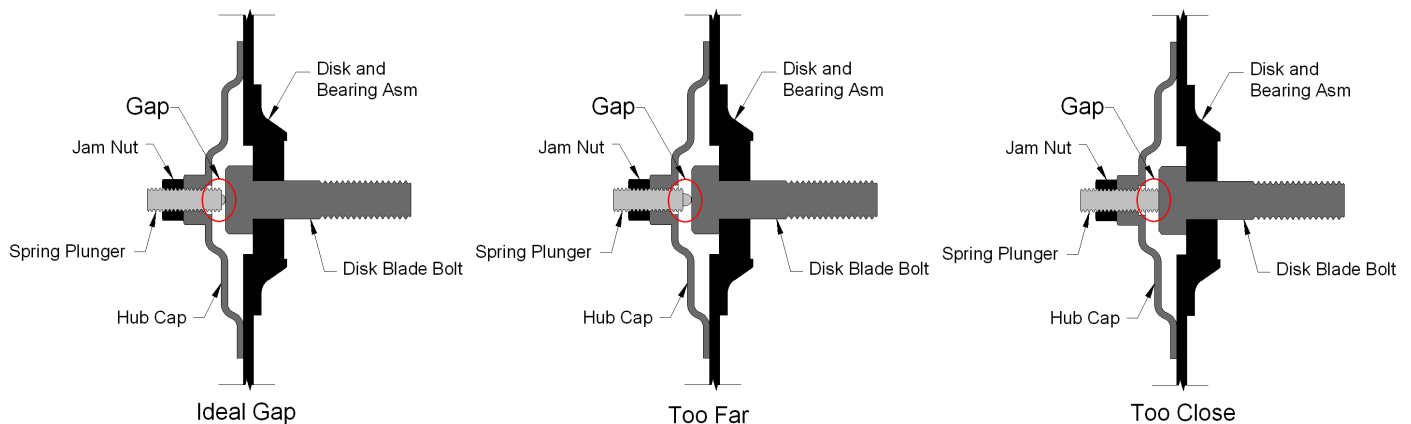

Figure 4.1
- 6) If the plunger appears to be in good working order, reinstall in the hub, and adjust until it bottoms against the spindle end. Rotate 1/2 turn backward to allow adequate clearance. Improper adjustment will result in premature failure (too little tolerance) or poor continuity (too much tolerance). See Figure 4.1 below to view proper clearance.